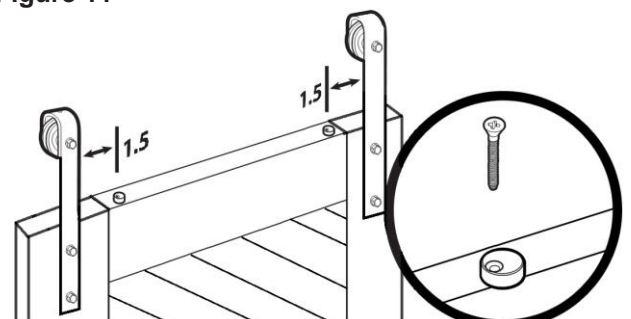

Figure 11
Once the Roller brackets have been secured and the finishing strips in place, it is important to install the Safety spacers (W). These spacers help to protect the door from being bumped off of the track. With the door lying flat in a safe and secure position, place one of the two spacers approximately 2" to the inside of one of the roller brackets. Place slightly off center towards the front of the door. Using a drill, secure the spacer with the screw provided. Repeat steps to install the second spacer inside the other roller bracket. See **Figure 11**